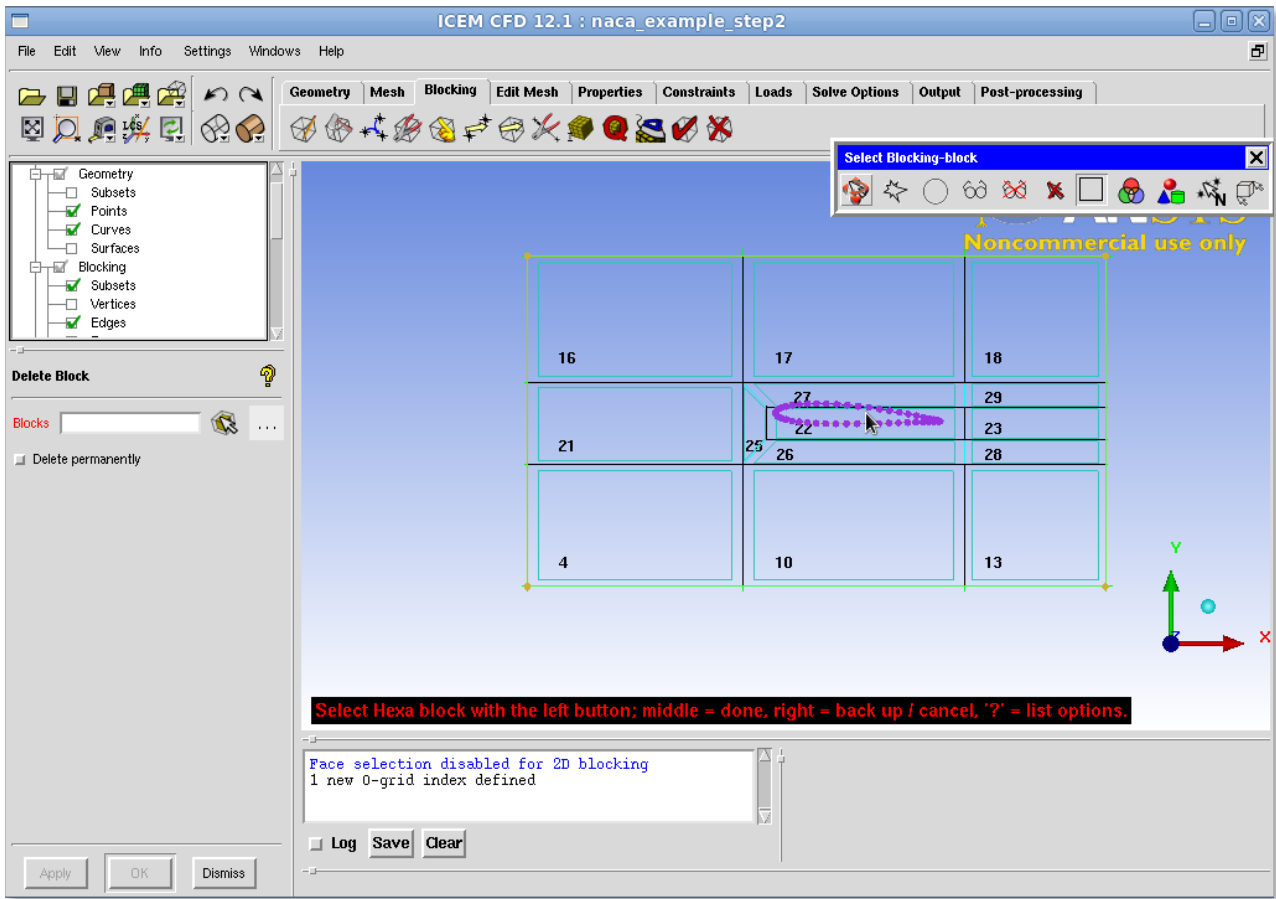

Figure 7: Deleting the Central Block
- Now we should delete the central block as this is the aerofoil itself and not something that we actually want to calculate. Blocking Tab → Delete Block and left click on the central square and use middle mouse to get rid of it. Your screen should look something like Figure 7 whilst you are doing this.
- Now we will merge four points together to clean up the trailing edge. On the Blocking Tab select the Merge Vertices icon (third from left) and then select the two vertices that make up the left hand side of block 23 in Figure 7 and then do the same for the points on the right hand side. This collapses the block.